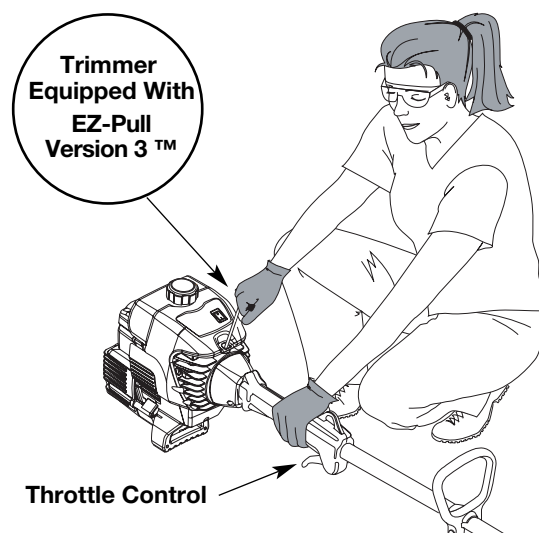

Fig. 8
**WARNING:** Avoid accidental starting. Make sure you are in the starting position when pulling the starter rope (Fig. 8). To avoid serious injury, the operator and unit must be in a stable position while starting.
5. Crouch in the starting position and **do not squeeze the throttle control** (Fig. 8). Pull the starter rope out with a **controlled and steady motion** until the engine attempts to start. Repeat until the engine starts.